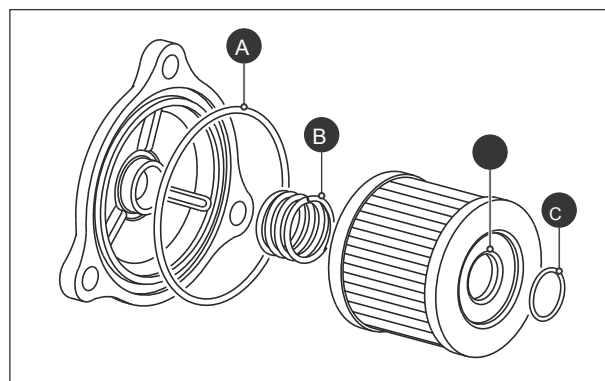

Fig. 2.33
While reassembling, ensure to assemble the 'O' rings (A & C) and spring oil filter (B). (Fig. 2.33)
Locate the seal end (1) of the filter towards crankshaft. (Fig. 2.33)